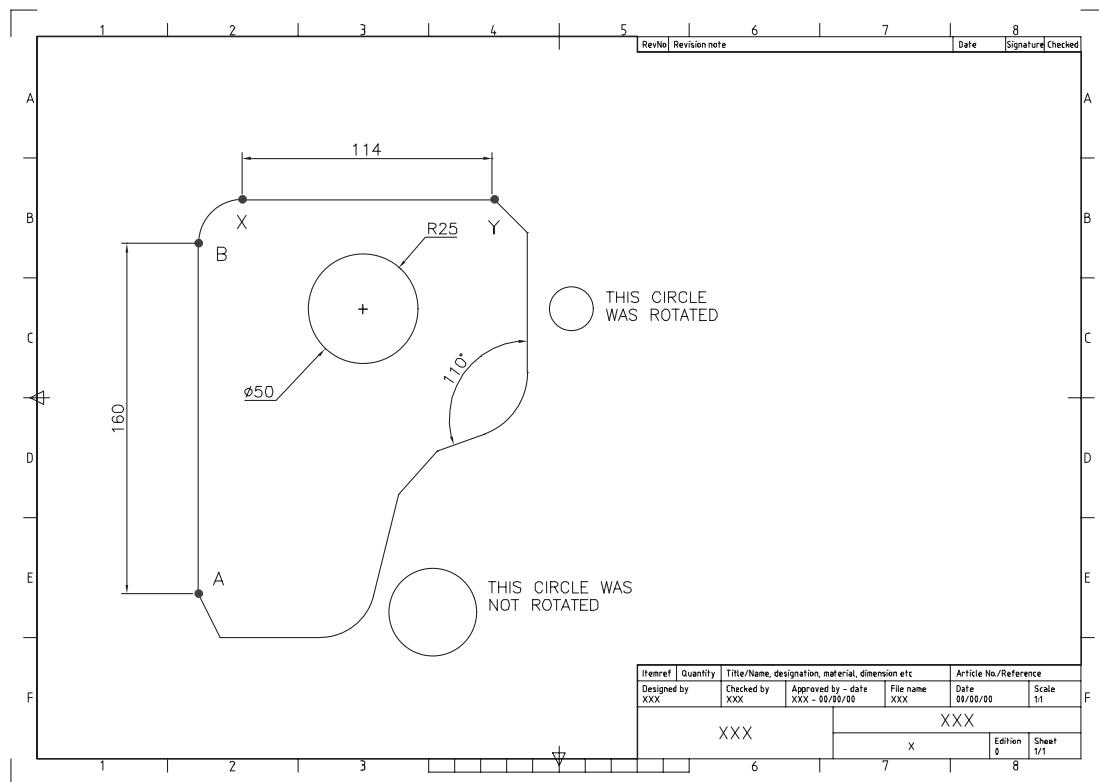

Figure 15.4 WORKDRG after the ROTATE command with information for SCALE.
- 6 a) The selected objects will be rotated as displayed in Figure 15.4
- 3 Refer to Figure 15.4 and erase the two circles ‘outside the shape’.